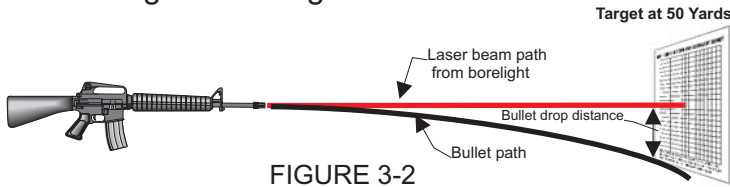

FIGURE 3-2
2. A bullet when fired from a weapon held parallel with the ground immediately starts to drop as soon as it leaves the barrel. The actual rate of drop is determined in part by the velocity of the bullet. Thus, the path of the bullet will always be below the straight line of laser light projected from the borelight. See Figure 3-2.